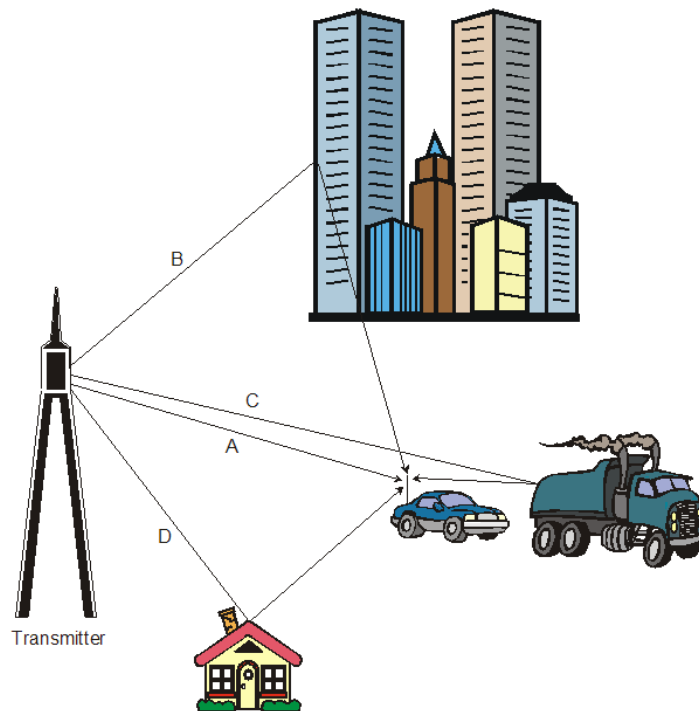

Figure 3-6: Transmitter to Receiver Signal Diagram
Relative path loss is a phenomenon where individual signal paths arriving at the receiver are at different absolute power levels. The difference in power levels between paths is caused by the physical obstructions in the signal path. Referring to Paths (A) and (C) in Figure 3-6, Path (C) arrives at a lower power level than Path (A). This occurs since some amount of the power in signal Path (C) is lost when it reflects off the truck. Signal strength also varies due to the distance the signal travels. The loss of signal strength should follow the $1/d^2$ law in free space, where d is the distance between the transmitter and the receiver. In the actual cellular environment the loss is much worse, (between $1/d^3$ to $1/d^6$), due mainly to variations in the terrain.
Static frequency shift from the carrier frequency occurs when the distance between the receiver and transmitter is changing. An example of this is when a mobile receiver (car) is driving away from the transmitter. Path (A) in Figure 3-6 has a static frequency shift due to the movement of the car. The amount of the frequency shift (Doppler frequency) from the carrier is determined by the following formula: